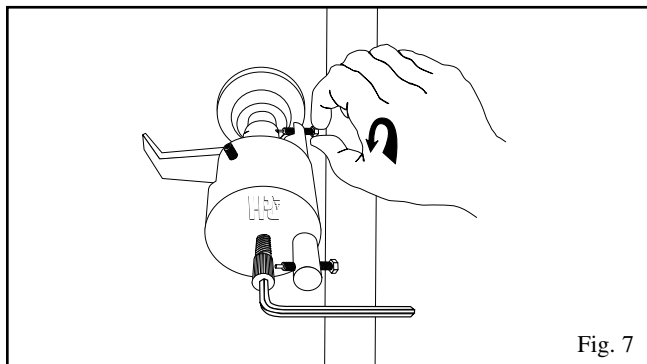

Fig. 7
7. **Back off the Pin Depressing Screw** to completely clear the handle, so as not to damage the Screw or the lock during removal of the handle (see fig. 7).